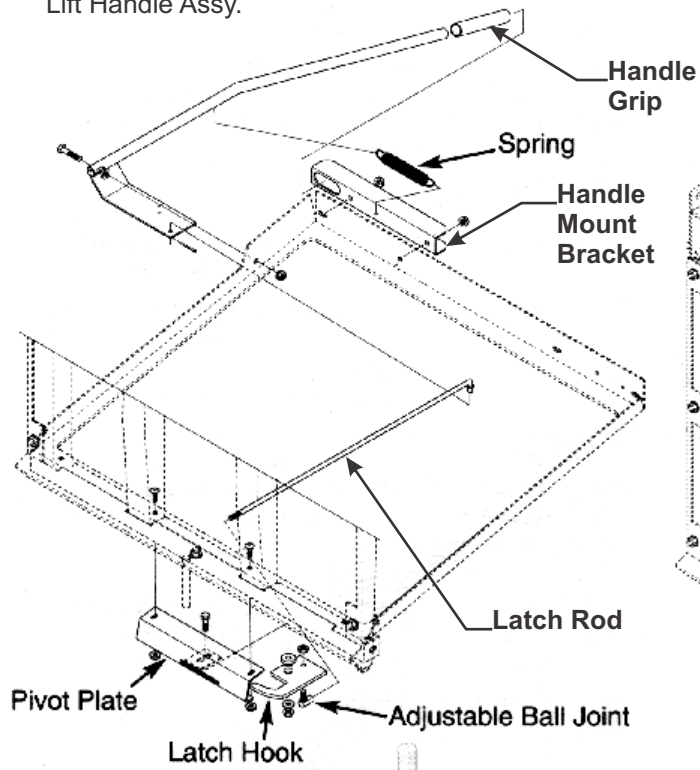

Figure 5
Before attaching the handle, hook one end of the spring P#(J0176) into the hole on the underside of the handle. Hook the other end of the spring into the open hole in the handle mount bracket. Fasten the handle to the grass container frame by using (1) 3/8"-16 x 2" HHCS P#(K1208) and (2) 3/8"-16 flange nuts P#(K1215). At this point the handle can pivot back and forth in the slot of the handle mount bracket. With the handle in place, fasten the ball joint P#(K1442), (Figure 5) to the end of the latch rod P#(A0260). Tighten to approximately half way down the threads of the latch rod. Slide the ball joint into the hole on the latch hook P#(B1529). Use (1) 5/16"-24 hex nut P#(K1444) and (1) 5/16" lock washer P#(K0043) to fasten the ball joint to the latch hook. Attach the opposite end of the latch rod into the handle. Fasten the rod to the handle by using (1) 3/32" x 3/4" cotter pin P#(K0094). Adjust the rod to allow the hook to close the box door completely.